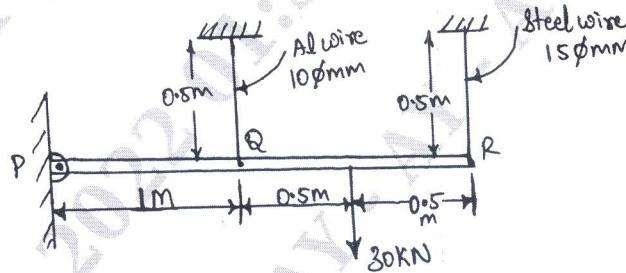

Fig.Q9(b)
b. A rigid rod PQR is supported by two wires and a hinge as shown in Fig.Q9(b). Determine stress and elongations of the two wires. Take $E_A = 70 \text{ GPa}$ and $E_s = 200 \text{ GPa}$.